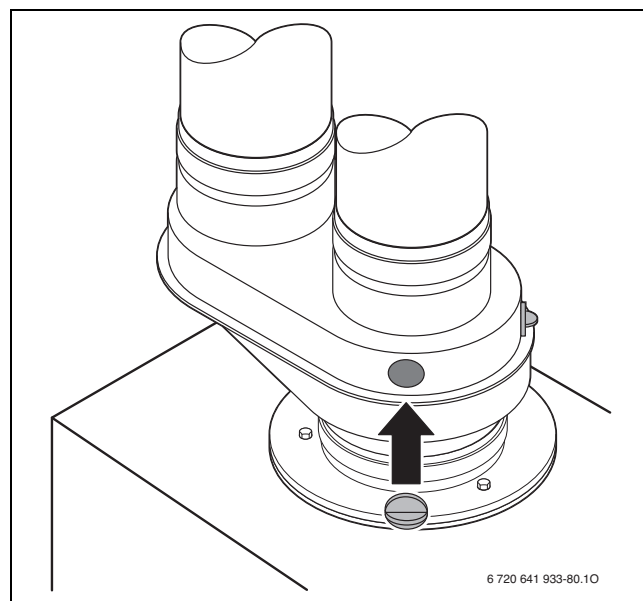

Fig. 84 Close flue gas test ports
- ▶ Remove the flue gas probe and seal the flue gas test port properly (→ Fig. 84).